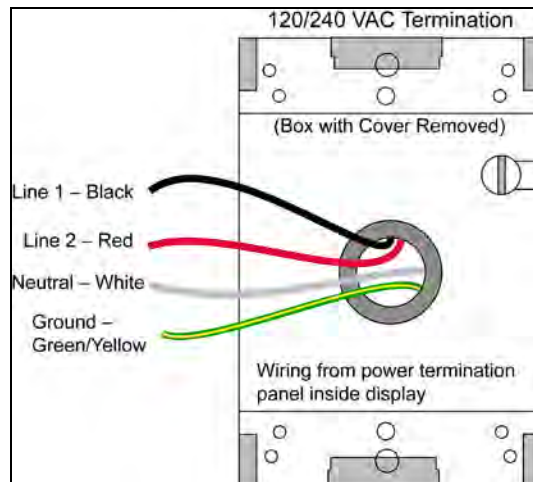

Figure 9: 120/240 VAC Power Termination
3. Inside the external J box, shown in **Figure 9**, connect the power wires to the wires coming from the display interior using wire nuts.